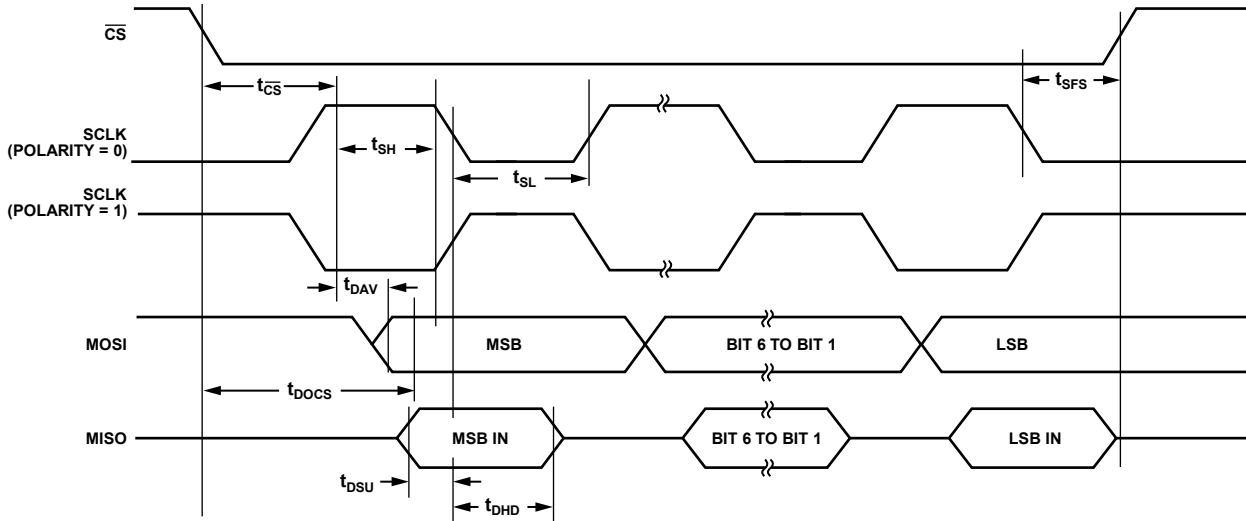
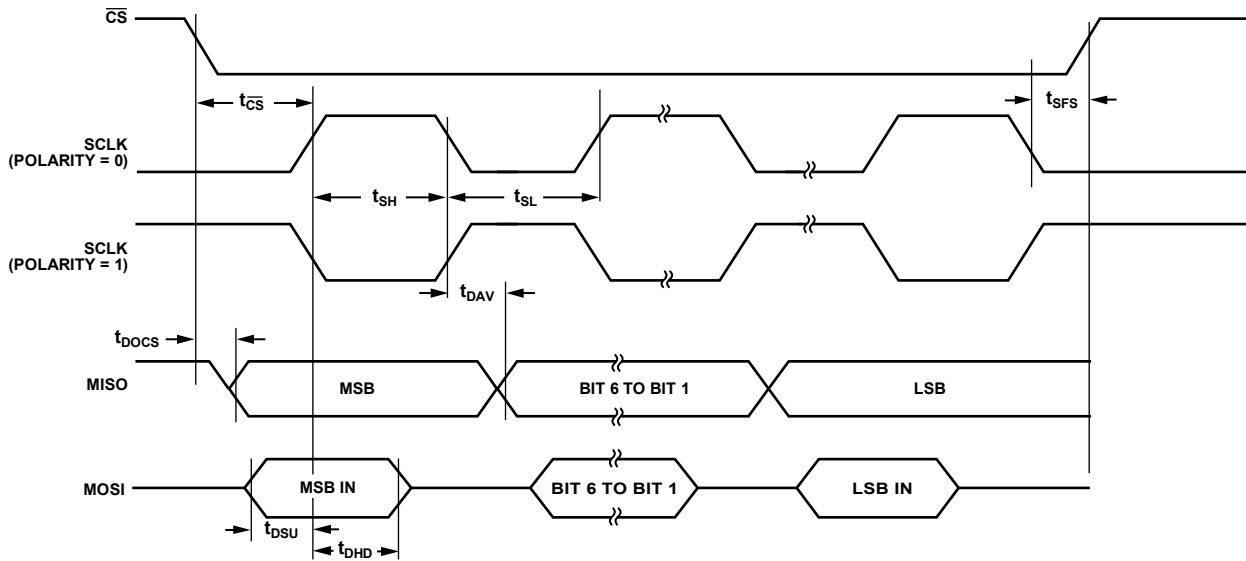

Figure 5. SPI Slave Timing Diagram (Phase Mode = 1)
Figure 6. SPI Slave Timing Diagram (Phase Mode = 0)
**Table 5. SPI Slave Mode Timing (See Figure 5 and Figure 6)**